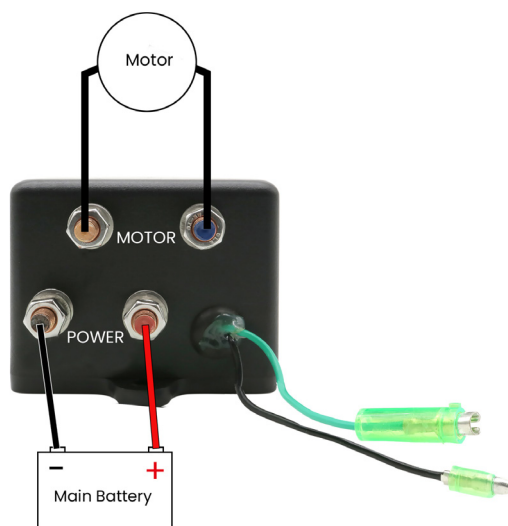

Fig 2. Battery & motor connections to control box
- Connect the cables as shown in Fig 2.